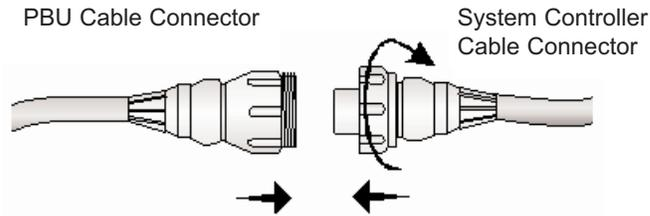

Figure 25 Unscrewing the PBU and System Controller Cables
- 6 Connect the **white** PBU cable connector by aligning the pins, pushing the connectors together snugly, and then hand tightening the connectors (**Figure 25**). *The alarm will stop and both the green power symbol and battery fuel gauge lights will stop flashing. Wait until the power symbol and battery fuel gauge lights stop flashing and the alarm stops sounding before continuing with Step 7. **Note:** Always connect connectors of the same color (i.e., white-to-white and black-to-black).*